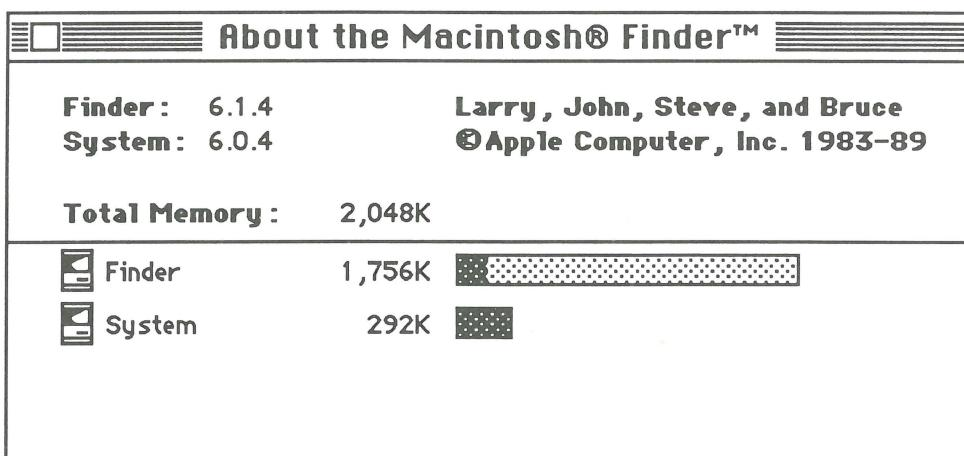

FIGURE 8
3. **Figure 8-A.** Locate the RAM expansion connector. Note whether the connector has a notch. If it does, a pseudostatic card must be used. Do not install a tableless, 1 MB RAM Expansion Card.
4. **Figure 8-B.** Position the card over the connector and plug the card in.
2. **Figure 8-C.** Pull down the Apple menu and select **About the Finder.**